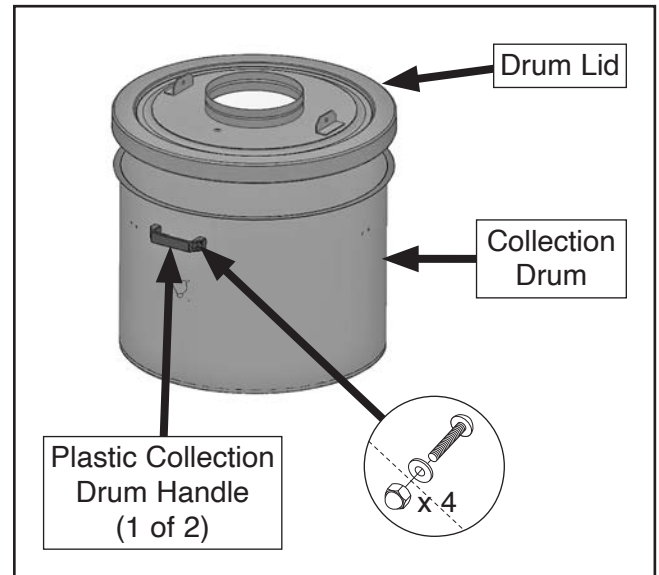

Figure 30. Drum lid and handles installed on collection drum.
27. Attach (2) plastic collection drum handles to collection drum using (4) $\frac{5}{16}$ "-18 x $\frac{3}{4}$ " Phillips head screws, $\frac{5}{16}$ " fender washers, and $\frac{5}{16}$ "-18 acorn nuts (see **Figure 30**).
29. Place collection drum lid on top of collection drum (see **Figure 30**).